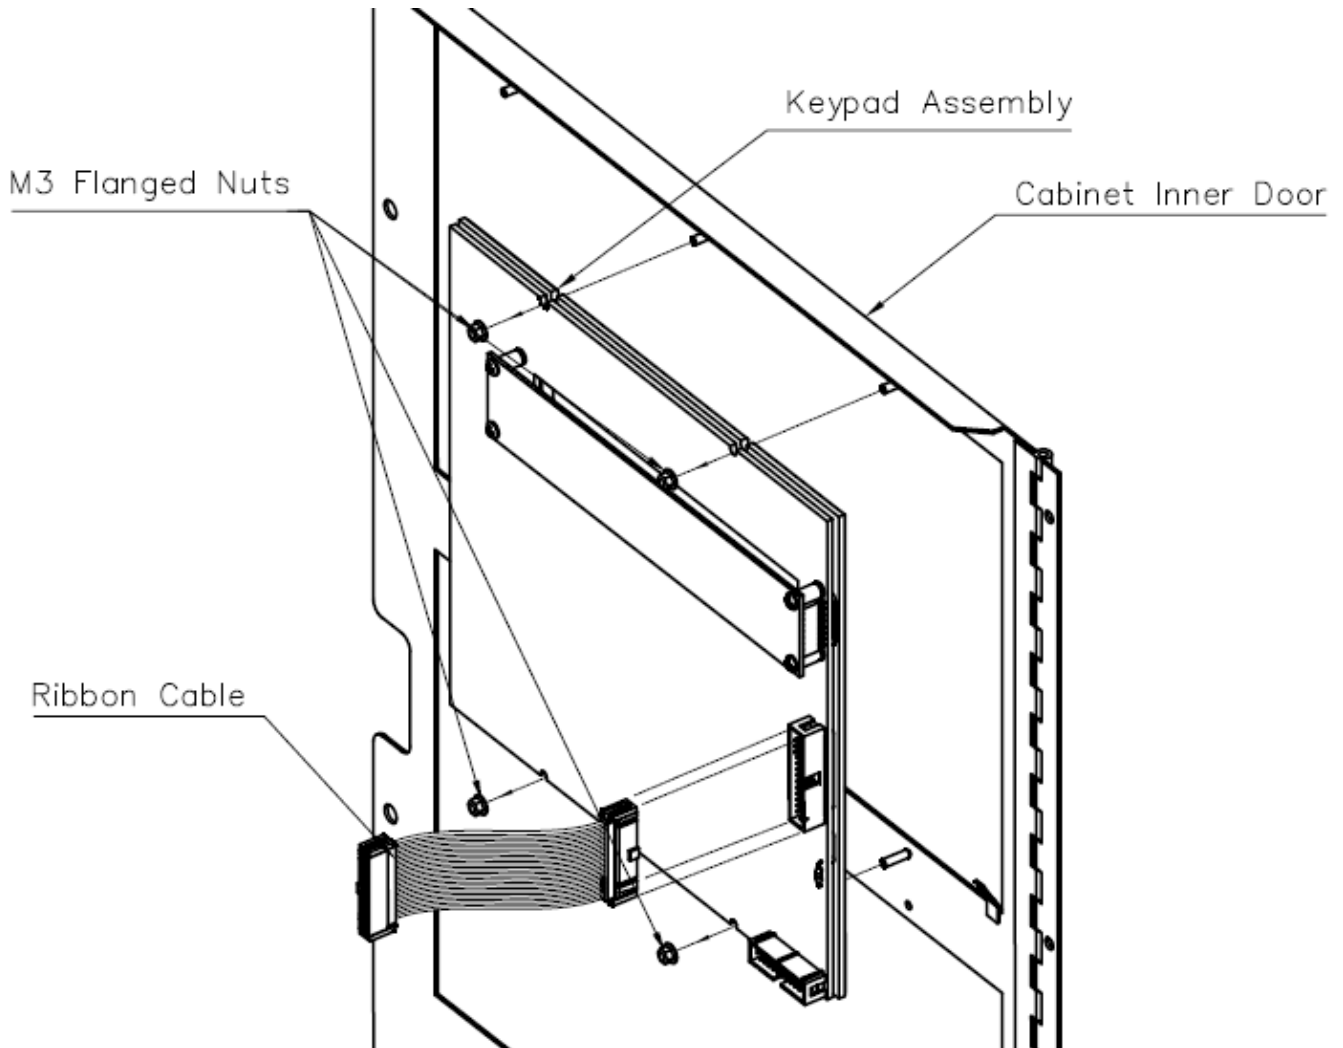

Figure 2-2- Removing Existing CFP-16 Keypad
3. Lift the keypad off the studs as per Figure 2-2.